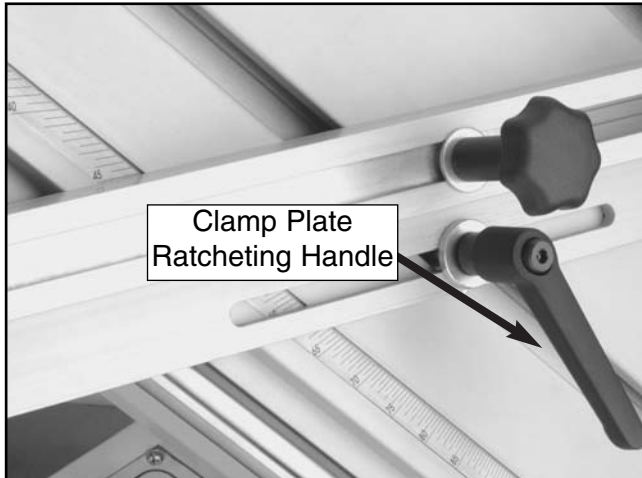

Figure 76. Miter fence set to 45° mark on the miter fence scale.
2. Position the fence at the desired angle and use the clamp plate ratcheting handle to lock the fence in place. **Figure 76** shows the miter fence set to 45° on the miter fence scale.